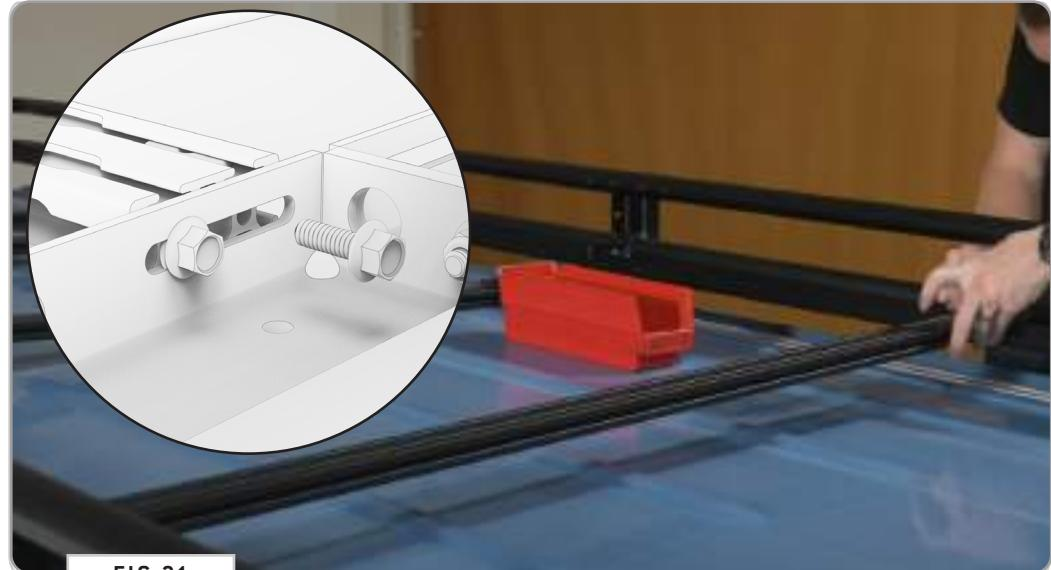

FIG 21
9.1 Attach Crossbars: Using (4ea) 1/4-20 Flanged Hex Bolts with Loctite (FIG 21), attach Crossbars to the rack in the locations shown in FIG 22. Be sure to measure both sides to ensure that the crossbars are square.